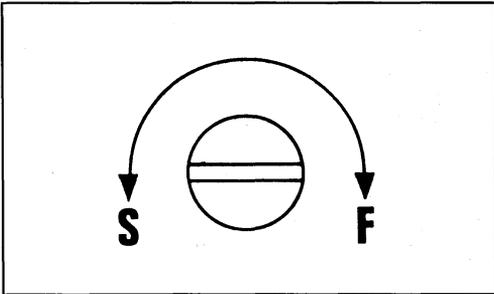

FIGURE 6
2.08 A potentiometer is provided for adjusting the interruption rate of the tone being sent. The end of the shaft of the pot appears on the faceplate (see Figure 6) surrounded by an arrow at the ends of which are the letters "S" (slow) and "F" (fast). Turning the shaft in either direction increases or decreases the interruption rate of the tone. This allows more than one unit to operate simultaneously in the same cable without confusion of tones.